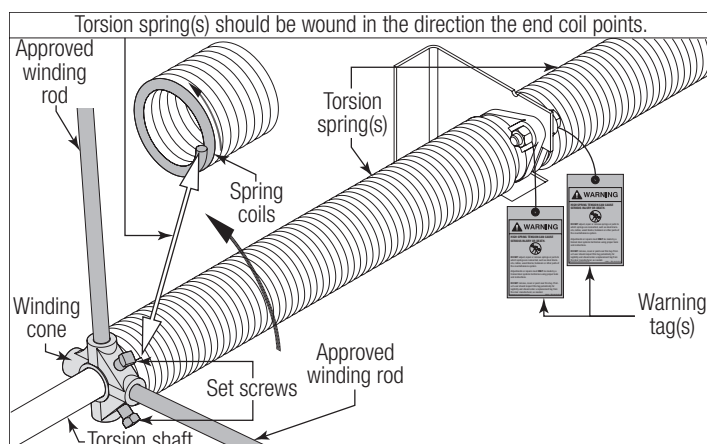
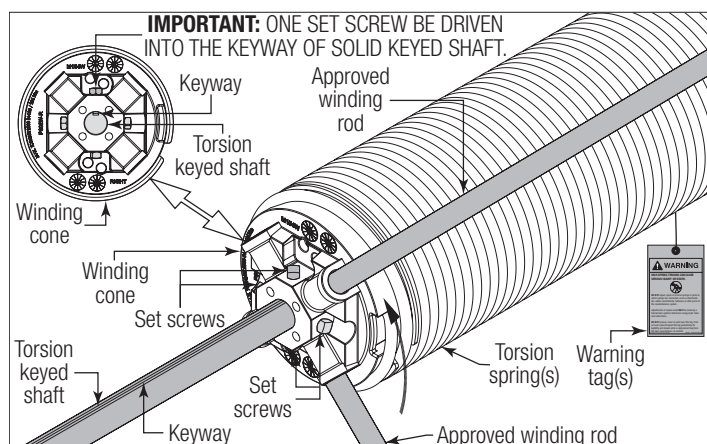

Figure 74
Figure 75
**PRIOR TO WINDING THE SPRING, ENSURE YOU'RE WINDING IN THE PROPER DIRECTION AS SHOWN IN FIGURE 74 AND FIGURE 75. OTHERWISE THE SPRING FITTING MAY RELEASE FROM SPRING AND RESULT IN SEVERE OR FATAL INJURY.**